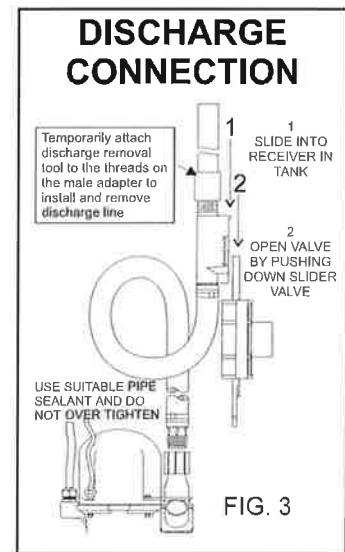

FIG. 3
- 5a. Attach the discharge hose to the anti-siphon check valve. Use pipe sealer on threads to ensure leaktightness. (Fig. 3)
- 7a. Attach discharge installation tool on male adapter. (Figs. 3 and 4)